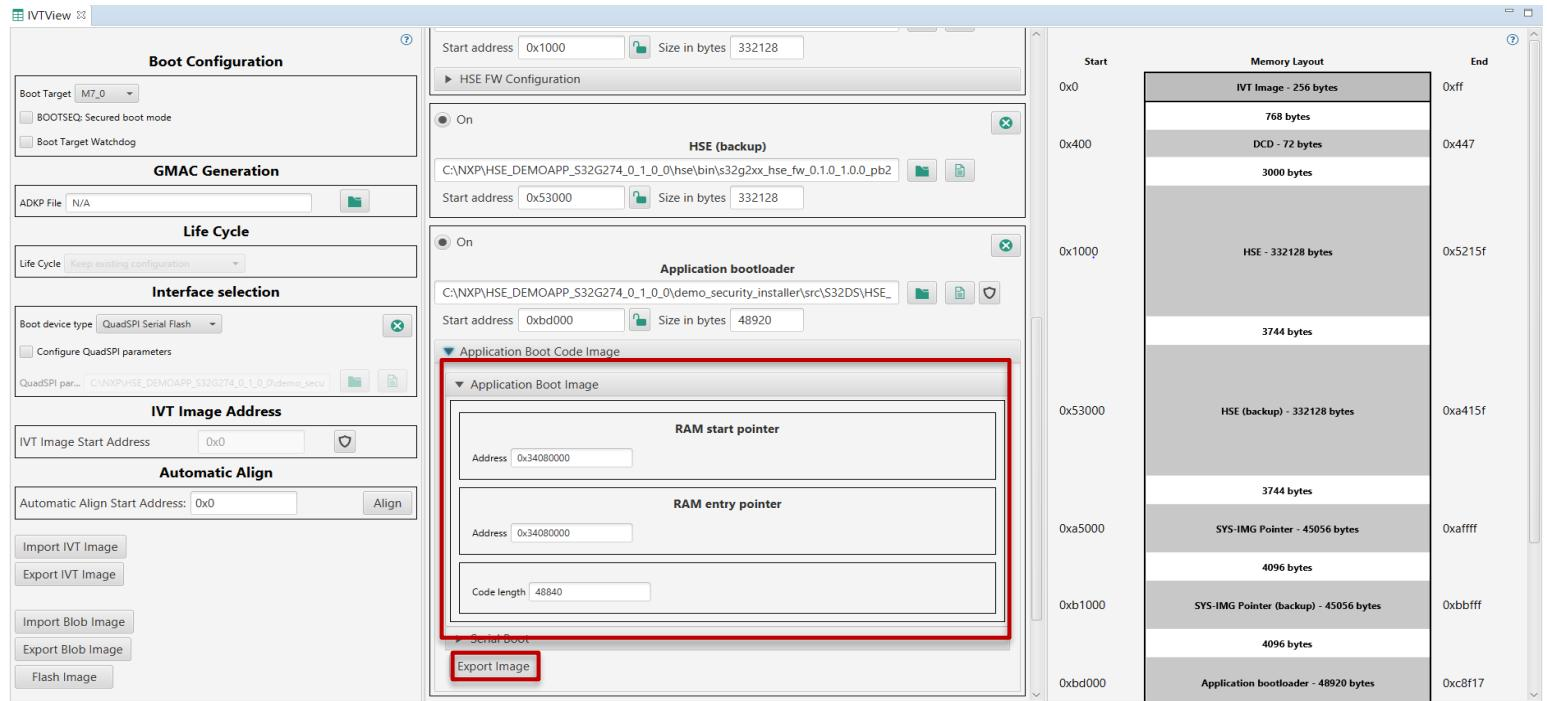

Figure 3 Generate application header (step 4)
- 4) Add header to the application images. After selecting the Application Bootloader binary, three fields will be displayed to be filled in: RAM start pointer, RAM entry pointer, and Code Length. These fields need to be filled in with the addresses the binary was linked to (0x34000000 for SAF85, 0x25000000 for ZE, 0x34080000 for the rest). Also, make sure the Code Length field is aligned to 8 bytes. Export Image -> *app_with_header.bin*. Import the new image (with header appended) – **Figure 3**;